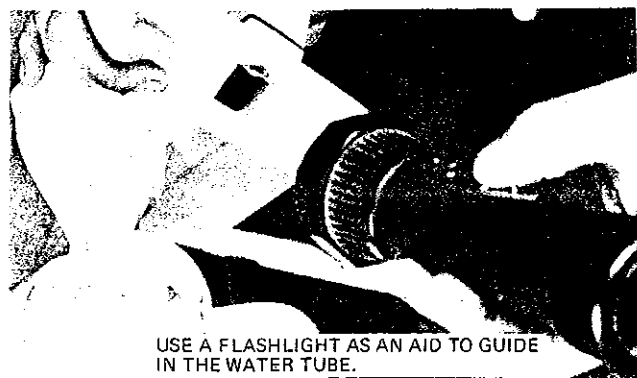

Figure 34. Guide water tube in place.
- E. Assemble the gear housing to the column by inserting the drive shaft into the column. Engage the drive shaft into the column. Engage drive shaft and engine crankshaft splines and guide the water tube into the water pump (Figure 34).